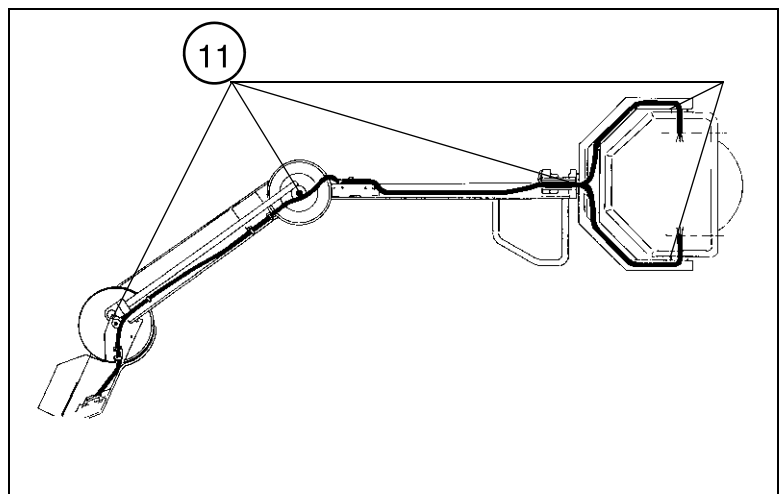

Fig. 18:
- Check all the cables for damage. Closely inspect the areas that are frequently subjected to torsion strain (Fig. 18 / p. 36).